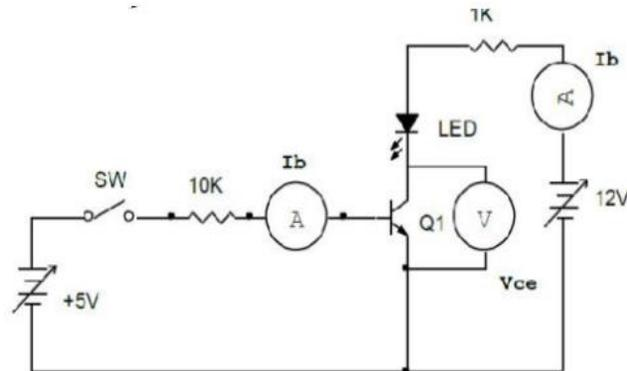

Figure 17.2: Circuit diagram of BJT as a switch
1. Connect circuit as shown in figure 17.2